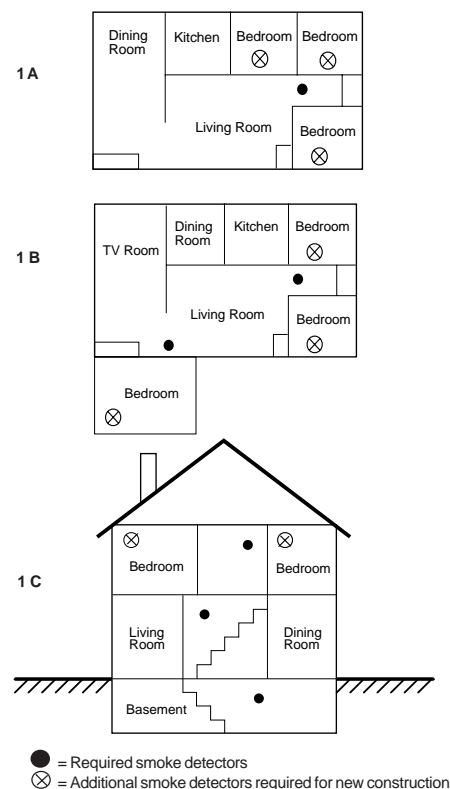

Figure 1. Detector placement
**A-8-1.2.1.a** *Where to Locate the Required Smoke Detectors in Existing Construction.* The major threat from fire in a family living unit occurs at night when everyone is asleep. The principal threat to persons in sleeping areas comes from fires in the remainder of the unit. Therefore, a smoke detector(s) is best located between the bedroom areas and the rest of the unit. In units with only one bedroom area on one floor, the smoke detector(s) should be located as shown in Figure 1 A.
In family living units with more than one bedroom area or with bedrooms on more than one floor, more than one smoke detector is required, as shown in Figure 1 B.
In addition to smoke detectors outside of the sleeping areas, the installation of a smoke detector on each additional story of the family living unit, including the basement, is required. These installations are shown in Figure 1 C. The living area smoke detector should be installed in the living room or near the stairway to the upper level, or in both locations. The basement smoke detector should be installed in close proximity to the stairway leading to the floor above. Where installed on an open-joisted ceiling, the detector should be placed on the bottom of the joists. The detector should be positioned relative to the stairway to intercept smoke coming from a fire in the basement before the smoke enters the stairway.